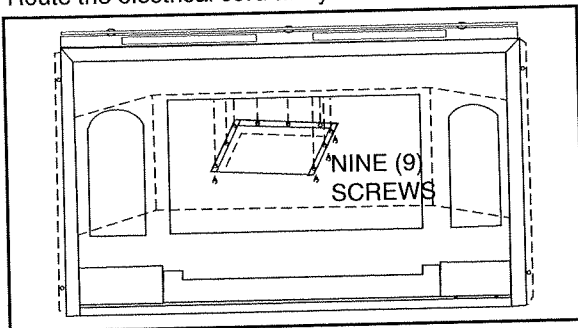

Figure 11
Remove baffle from heater by unscrewing nine (9) screws located around the baffle. (See Figure 11)